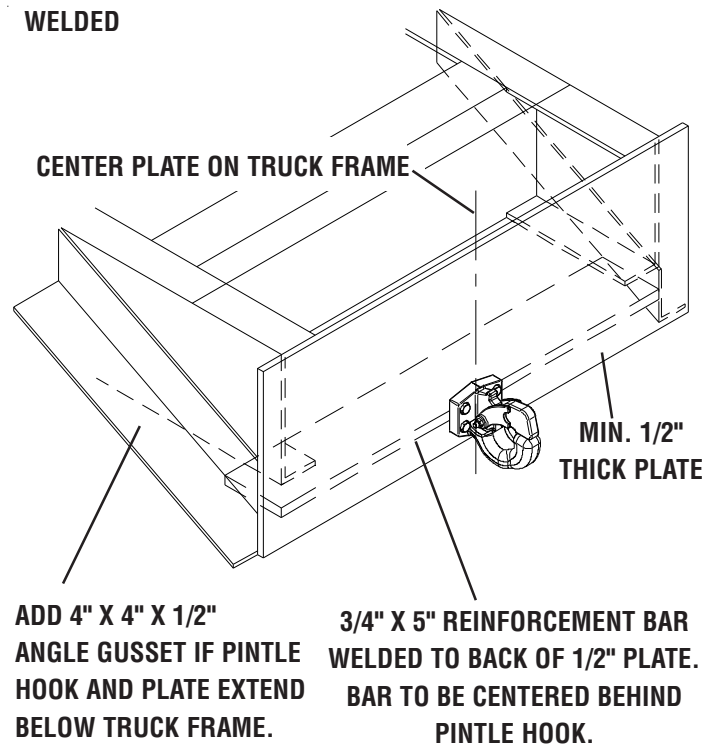

Figure 38
2. The plate needs to be a minimum of 1/2" thick and wider than 36". See Figure 38.
7. If the pintle hook and plate extend below truck frame, add 4" X 4" X 1/2" angle gussets (See Figure 38)
8. Weld the 3/4" X 5" Reinforcement Bar in a horizontal position as shown in Figure 38 to the Rear Plate using 3/8" fillet with 3" skip welds, 6" on center, top and bottom.